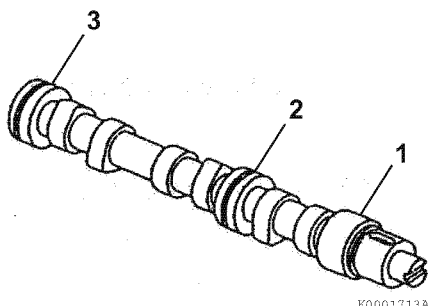

Figure 6-79
4. Measure the diameter of the gear end (Figure 6-79, (1)), intermediate (Figure 6-79, (2)), and flywheel end (Figure 6-79, (3)) bearing journals. Record the measurements. See Camshaft on page 6-6 for specifications.